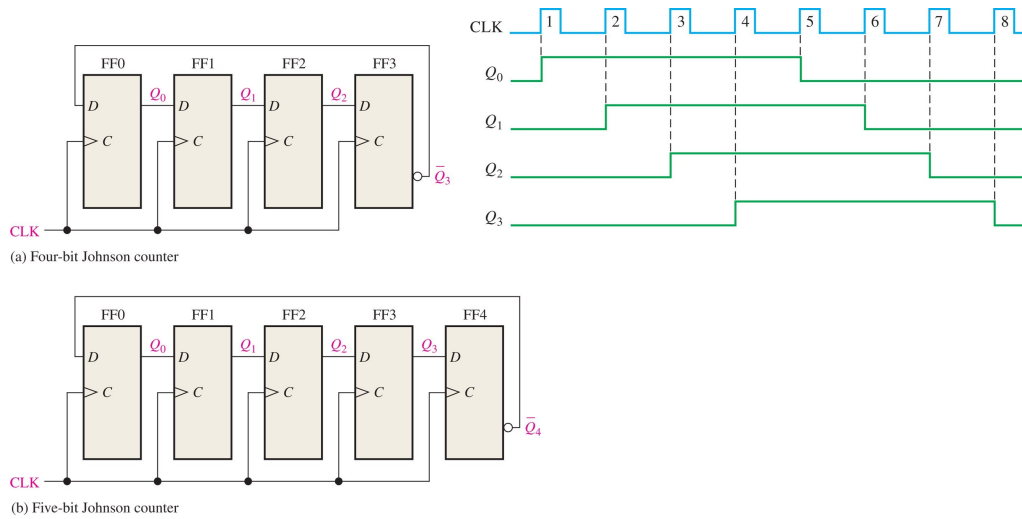

Figure 9: (Left) 4 and 5-bit Johnson counters. (Right) The timing diagram for the 4-bit case.
2. Consider Fig. 9, in which 4 and 5-bit Johnson counters are depicted. (a) Create a circuit based on Fig. 9 called a *combinatoric trigger*. Imagine four digital channels A, B, C, and D, as inputs. The output of the circuit should be True if *any two* of the four channels is True *within 100 ns of each other*. Develop any necessary logic symbols, and use the appropriate clock frequency. The Johnson counter(s) can have any number of bits.